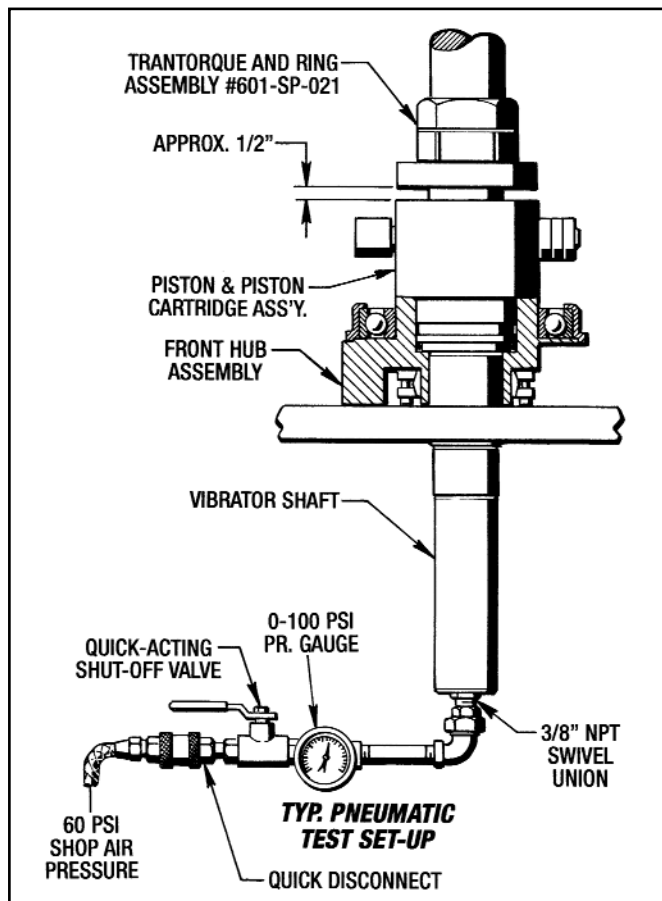

Figure 7.11 - Testing Piston for Leaks
8. Slide the **Trantorque and Ring Assembly #601-SP-021** down over the shaft and lock it so it is approx. 1/2" from the rear face of the Piston (#34) as shown in Figure 7.11.
9. Attach a Pneumatic Test Set-Up (or similar) as shown in Figure 7.11 to the Rotary Union (#41) and apply 60 to 80 PSI air pressure. The piston will move up to the **Trantorque and Ring Assembly #601-SP-021**. Maintain this air pressure for approx. 30 to 60 seconds. Watch the pressure gauge very closely for any leaks.
In each of the (4) Conditions - **A - B - C** and **D** shown in *Figure 7.11*, this means that you will add or remove **.004"** of shim thickness from the existing **.040**.